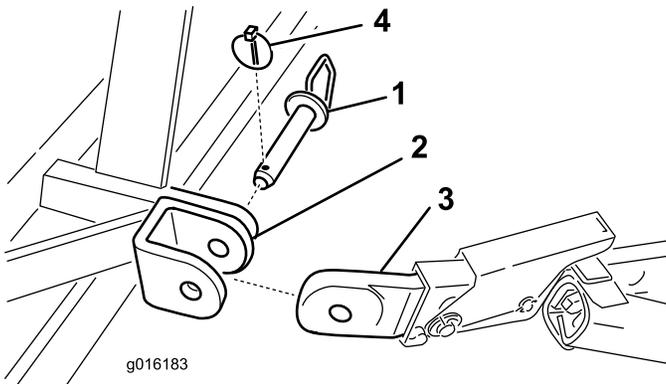

Figure 4
- Secure the lower link arms to the aerator mounting brackets with hitch pins and lynch pins (Figure 4).